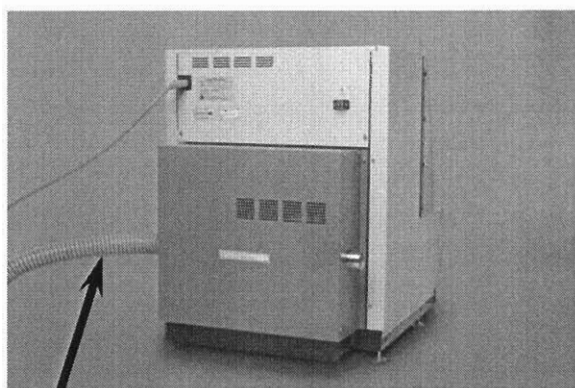

Figure 2-C
Connecting the Exhaust Hose (Fig. 2-C)
To connect the exhaust ① hose, run the hose clamp over one end of the exhaust hose and attach it to the exhaust port on the backside of the instrument, either the left or right side. Tighten the clamp using a Phillips screwdriver, securing the exhaust hose to the port. There are two ports on either side of the instrument; the unused port should be closed with the exhaust cover included with the accessories. Connect the other end of the hose to a fume hood or venting system. (Fig 2-C)